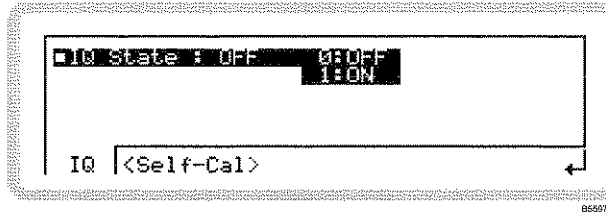
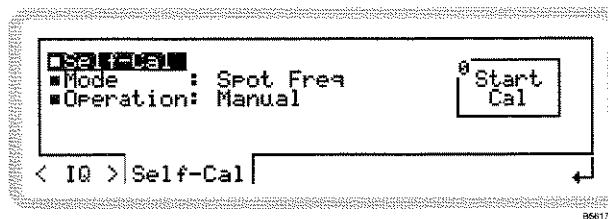

Fig. 3-27 Internal IQ
Fig. 3-28 Self-calibration
- 2 Press **SIG GEN** to show the main screen, and touch the **IQ** soft box to select the function. Touch **IQ** and press **<Self-Cal>** to view the internal IQ modulation menu (Fig. 3-27).
From the internal IQ menu of Fig. 3-27, touch <Self-Cal> or press <TAB> to display the self-calibration screen (Fig. 3-28).